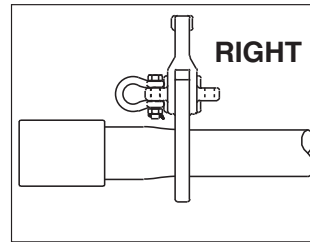
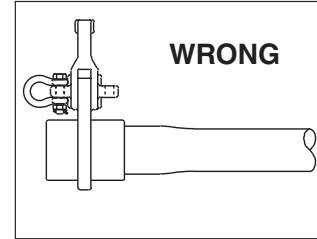

Figure 1
Figure 3
- The grab must be installed adjacent to the flared end of the tubing or the coupler (see Figures 1 & 2). Do not attempt to attach the grab directly to the larger diameter flared end or the coupler (see Figure 3).